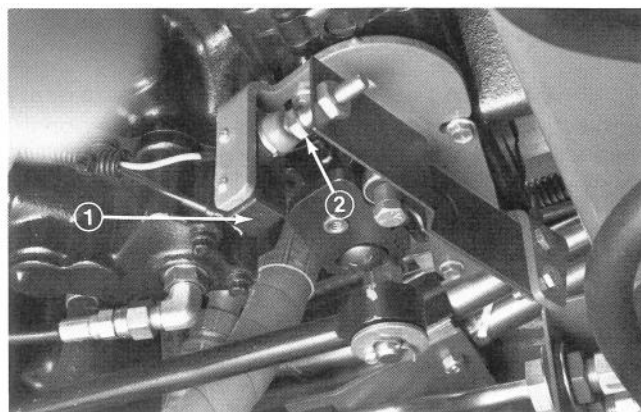

Figure 67
1. Make sure traction pedal is in neutral position. Loosen jam nut and rotate switch adjusting screw until there is a gap between head of screw and switch button (Fig. 67).